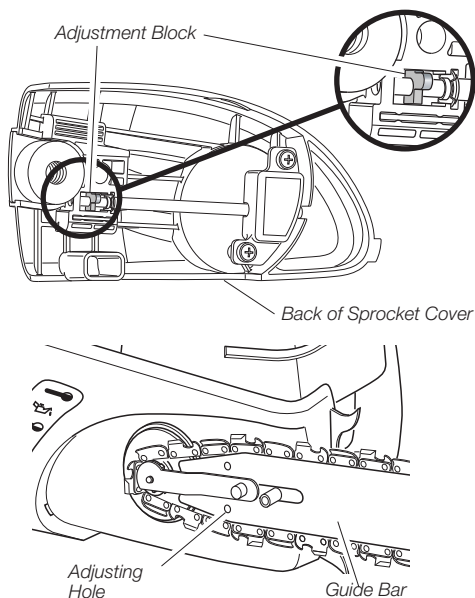

Figure 17 - Adjustment Block and Adjusting Hole Location
2. Rotate front of sprocket cover toward guide bar until adjustment block touches guide bar (see Figure 17).